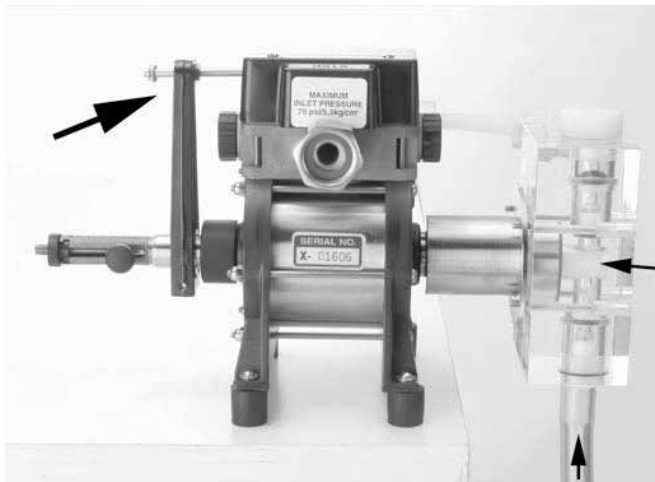

Figure 4
3. As water flows through the water motor of the proportioner, the actuating arm and piston at the rear of the proportioner will move back and forth. This shaft operates the chemical pump piston. The concentrate will start rising up the suction tube (Figure 4).